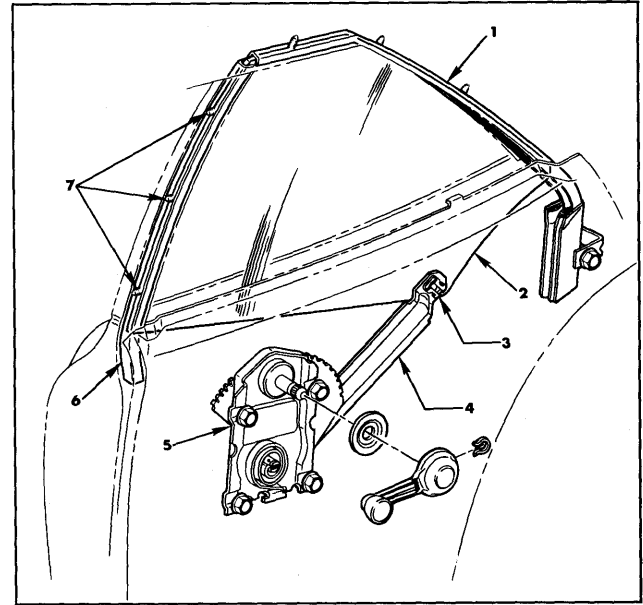

Fig. 7-7—Rear Quarter Hardware "X-27" Styles
3. Support glass with one hand and disengage clip retainer which secures regulator lift arm to pivot pin on window sash channel on "B-11" Styles (Fig. 7-5) or at lower edge of glass on "A" (Fig. 7-6) and "X" (Fig. 7-7) Styles.
2. Remove screws along length of run channel securing channel to body (Figs. 7-7 and 7-8).